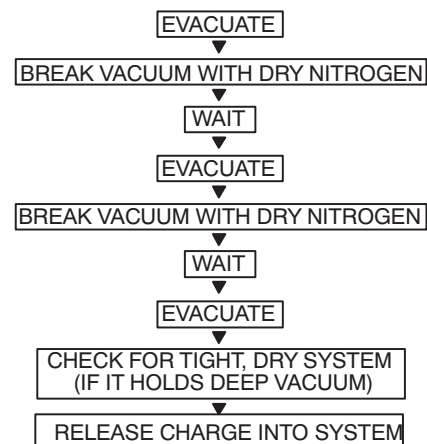

Fig. 36 —Triple Evacuation Method
The triple evacuation method should be used when vacuum pump is not capable of pumping down to 1/4 inch and system does not contain any liquid water. Refer to Fig. 36 and proceed as follows:
5. Repeat this procedure as indicated in Fig. 36. System is now free of any contaminants and water vapor.